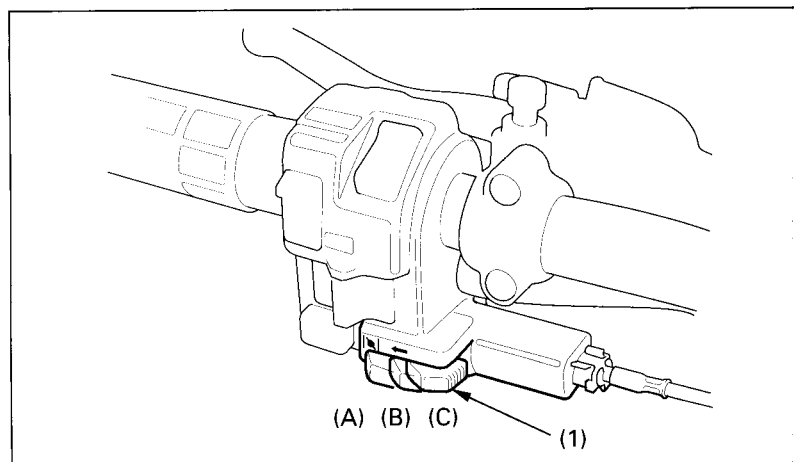

Fig. 3-9
3. After the engine has warmed up, move the choke lever (Fig. 3-9) right to the fully OFF. (C)